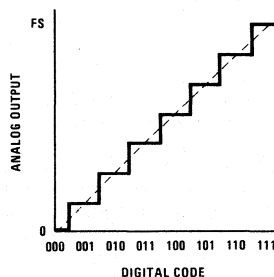

FIGURE 1. Linear DAC Transfer Curve Showing Minimum Resolution Error and Best Possible Accuracy
**Accuracy** is sometimes considered to be a non-specific term when applied to D/A or A/D converters. A linearity spec is generally considered as more descriptive. An accuracy specification describes the worst case deviation of the DAC output voltage from a straight line drawn between zero and full scale; it includes all errors. A 12-bit DAC could not have a conversion accuracy better than  $\pm\frac{1}{2}$  LSB or  $\pm 1$  part in  $2^{12}+1$  ( $\pm 0.0122\%$  of full scale due to finite resolution). This would be the case in figure 1 if there were no errors. Actually,  $\pm 0.0122\%$  FS represents a deviation from 100% accuracy; therefore accuracy should be specified as 99.9878%. However, convention would dictate 0.0122% as being an accuracy spec rather than an inaccuracy (tolerance or error) spec.